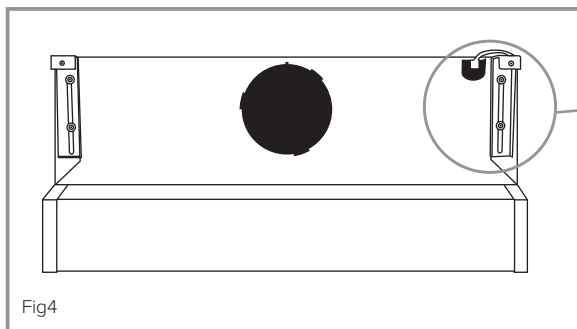

Fig4
4. Hang the hood on the brackets and adjust the brackets and height to suit. The adjustment mechanism is shown in Fig. 4.